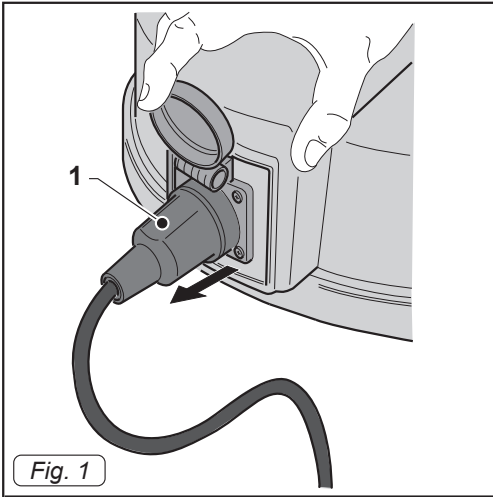
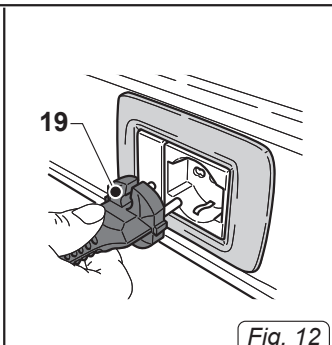

Fig. 1
Fig. 12
- Remove the plug (1 Fig. 1) for the evacuation pump.
- Insert the plug (1 Fig. 1) into the socket.
- Insert the plug (19 Fig. 12) in the power socket and check that the plug (1 Fig. 1) powering the evacuation pump is correctly inserted.
- Remove the plug (19 Fig. 12) from the electrical socket.
- Remove the power plug (1 Fig. 1) for the evacuation pump.